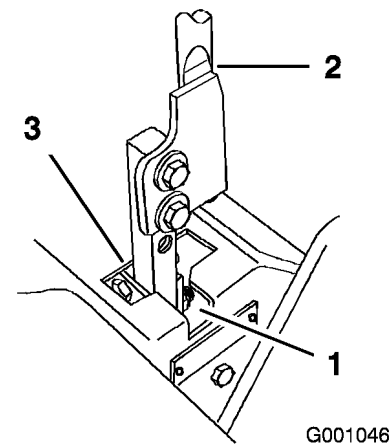

Figure 60
5. Move the lever to the neutral position but not locked (Figure 60).
6. Pull the lever back until the clevis pin (on arm below pivot shaft) contacts the end of the slot (just beginning to put pressure on the spring) (Figure 60).
7. Check where the control lever is relative to notch in console (Figure 60). It should be centered allowing lever to pivot outward to the neutral lock position.